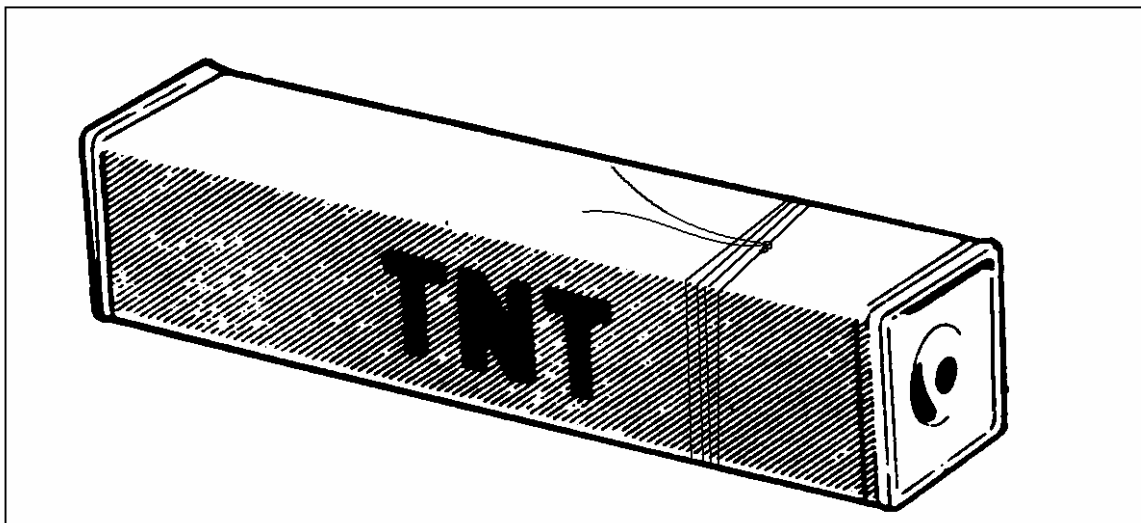

Figure 052-193-1311-12
- (1) Place the blasting cap underneath a sandbag.
- (2) Use the pointed end of the M2 crimpers to punch a hole in the paper that covers the threaded cap well of the block of TNT.
- (3) Inspect the threaded cap well to ensure that nothing is preventing the blasting cap from fully seating in the threaded cap well of the explosive.
- (4) Wrap the string around the block four times. Ensure that the tails are the same length, and secure the wraps with a nonslip knot (Figure 052-193-1311-12).